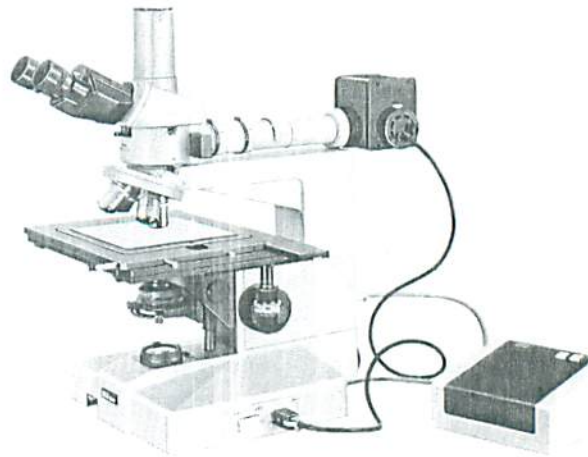

Fig. 38
- ② Turn ON the power switch for revolving nosepiece, and make sure of the switch lighting.
- ③ The relation between the turning direction of the revolving nosepiece rotation switch and the rotating direction of the motorized revolving nosepiece is shown by the arrows in the Fig. 38.
- ④ Keeping the rotation switch depressed rotates the nosepiece continuously.